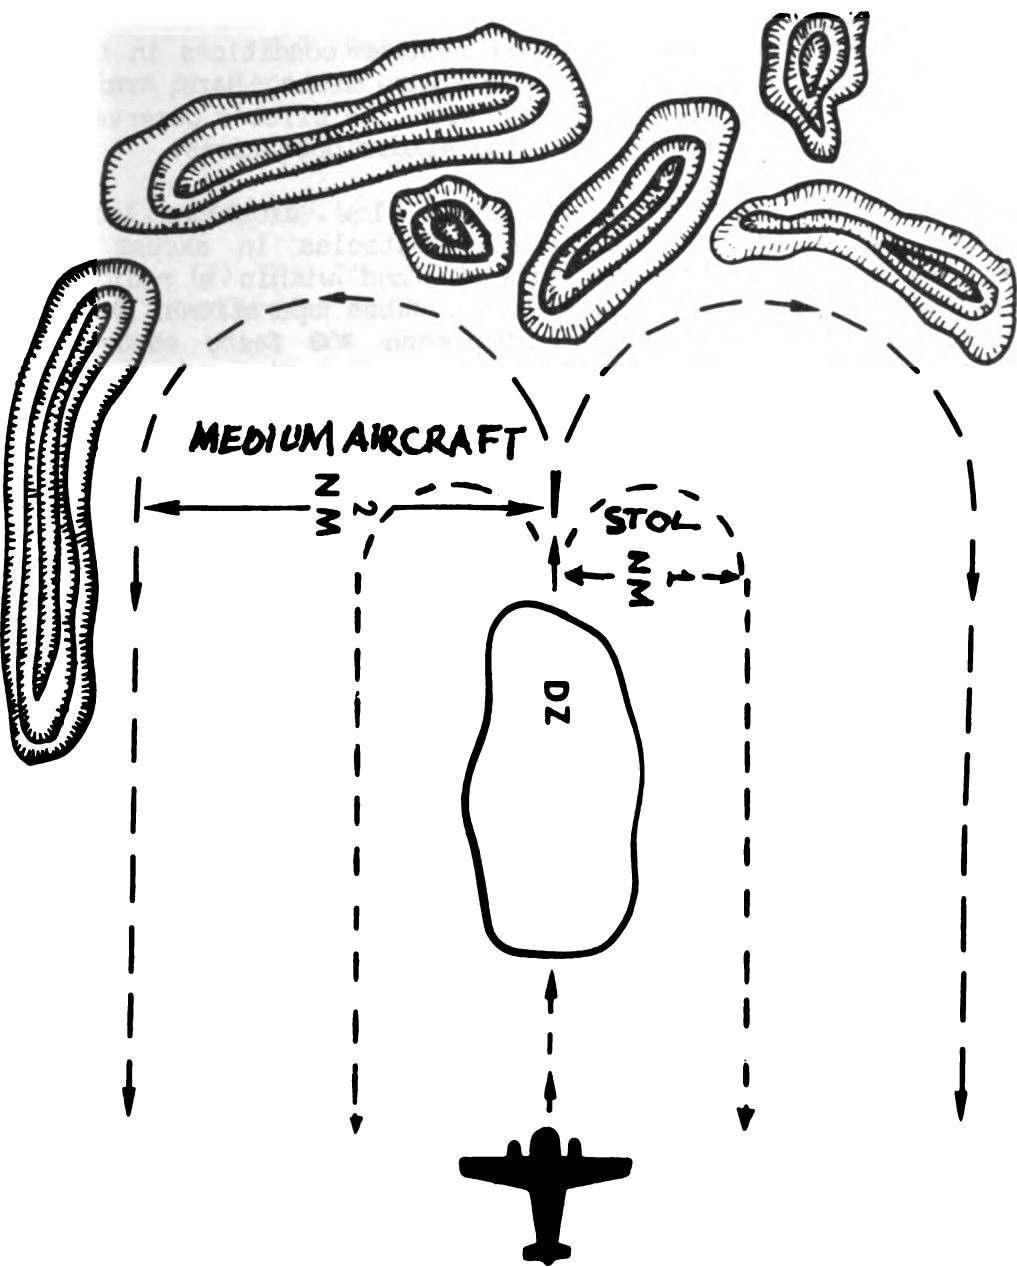

Figure 2. Level turning radius required for one-approach DZ's.
(2) Turning radius. DZs having a single clear line of approach are acceptable, provided there is a level turning radius (2 nautical miles on each side of the site for medium aircraft; 1 nautical mile for STOL aircraft) (fig. 2).